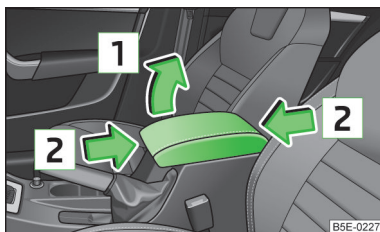

Fig. 52
- First of all fold the cover downwards and then lift it in the direction of the arrow **1** » Fig. 52 to one of the 4 fixed positions.
- Move the cover into the desired position in the direction of the arrow **2** » Fig. 52.